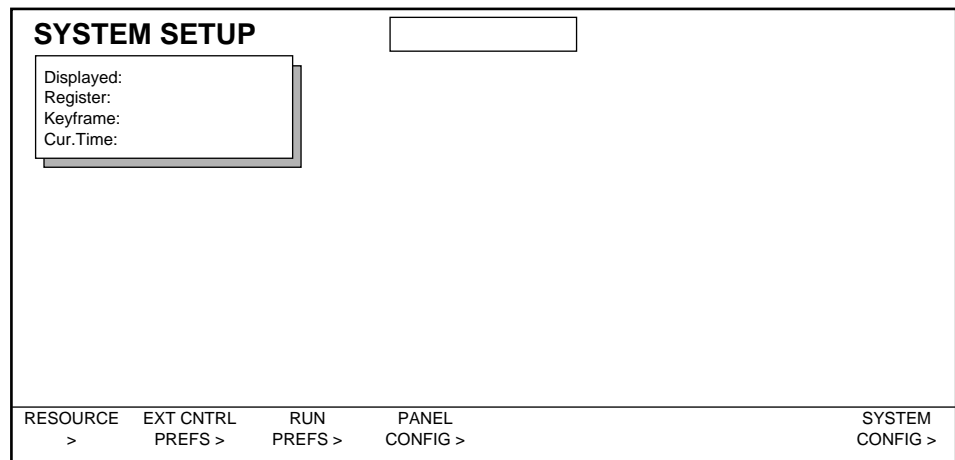

Figure 3-28. System Setup Menu
1. Press the System Setup top menu button to go to the System Setup Menu (Figure 3-28).